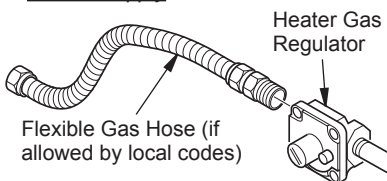
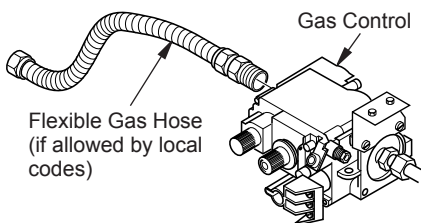

Figure 11 - Attaching Flexible Gas Hose to Heater Gas Regulator (Thermostatically-Controlled Models Only)
Figure 12 - Attaching Flexible Gas Hose to Heater Gas Regulator (Remote-Ready Models Only)
1. Apply pipe joint sealant lightly to male threads of gas fitting (provided). For Thermostatically-Controlled Models connect approved flexible gas hose to gas regulator of heater (see Figure 11). For Remote-Ready models connect approved flexible gas hose to inlet side of gas control (see Figure 12).
4. Disconnect gas line from heater base as shown in Figure 11 or 12, page 14.